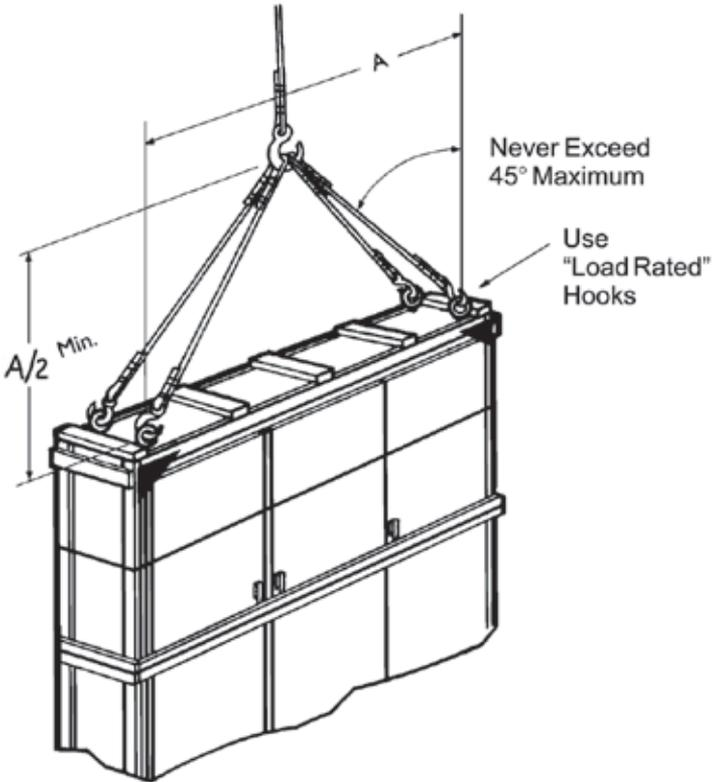

Figure No. 6
See Figure No. 6 and follow procedures as listed below.
1. Attach rigging to eye bolts always maintaining the 45° maximum angle illustrated in Figure No. 6. When lifting three-, four-, and five-door enclosures, four eye bolts must be used.
4. To reduce tension on the rigging and compression on the enclosure, do not allow the angle between the lifting cables and the vertical to exceed 45 degrees, see Figure No. 6.